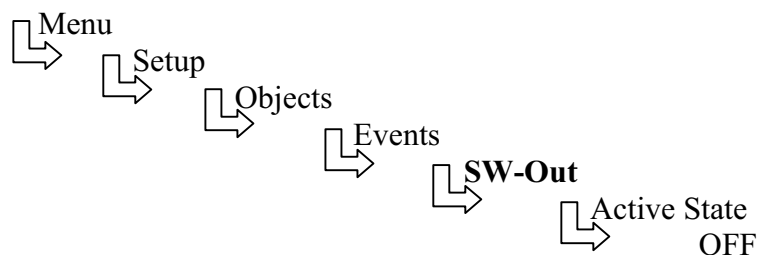

Figure 1-4. Checking SW-out - Case 2
2. In case of an Isodat configuration with **Surveyor MS Pump only**, additionally check SW-out as displayed in Figure 1-4: